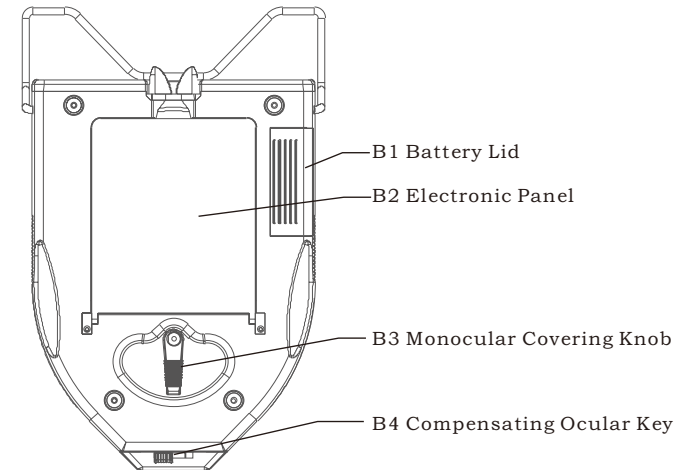

Fig.3
3.2 Description of Rear Panel(as shown in Fig.3)
a. When needing to measure the left or right pupillary distance, please turn the Monocular Covering Knob (as shown in Fig.3 B3) which can cover the other eye completely (as shown in Fig.8a and Fig.8b)